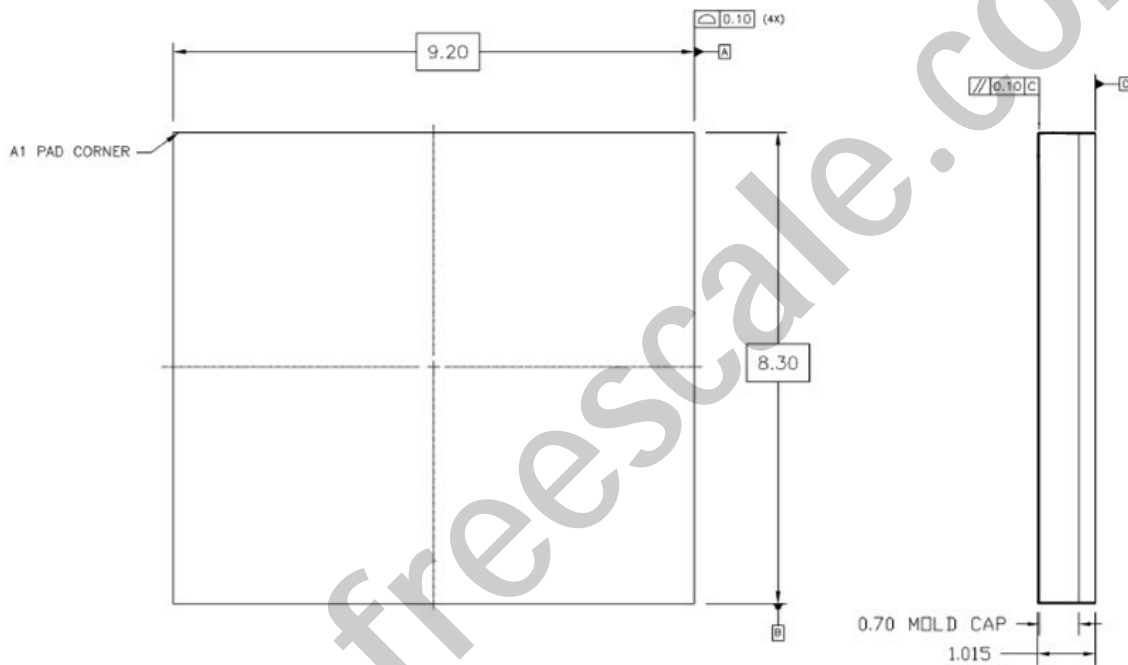
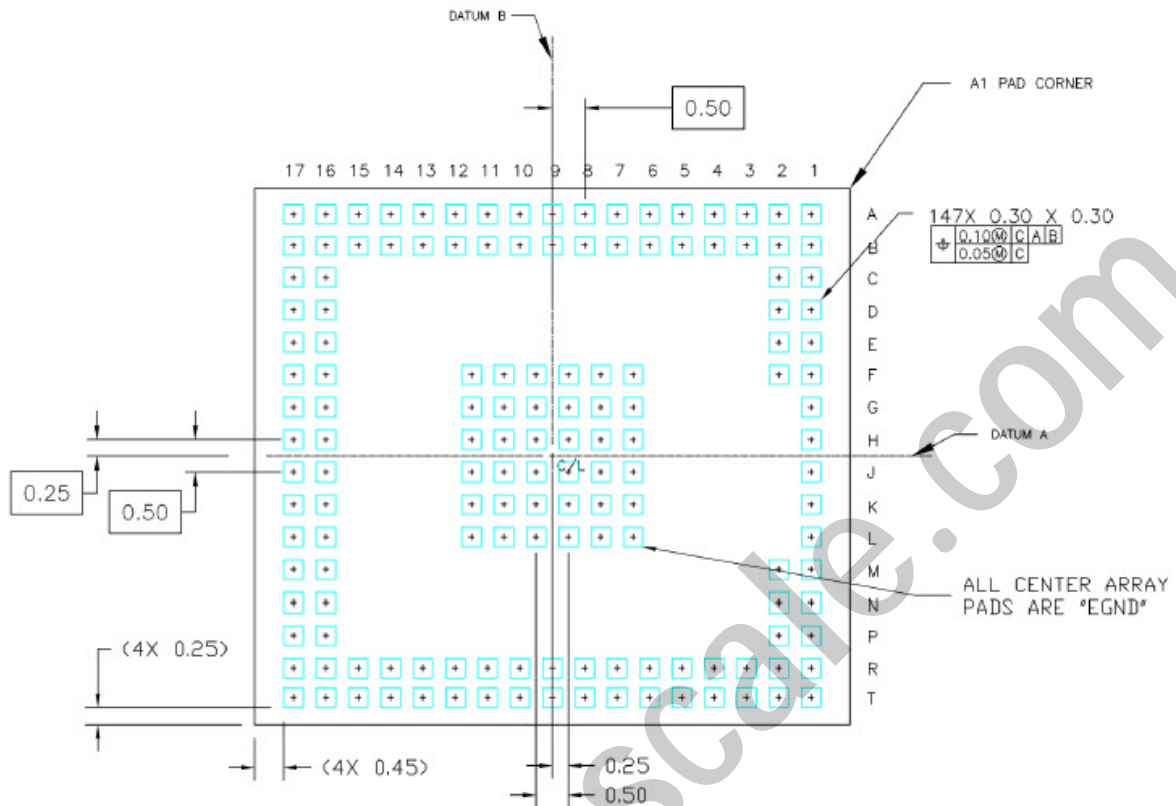

Figure 6-1 AR4100(P) Package Dimensions (Top and Side Views)
Figure 6-2 AR4100(P) Pin Assignments (Bottom View)
Figure 6-1 and Figure 6-2 show the AR4100(P) package dimensions.